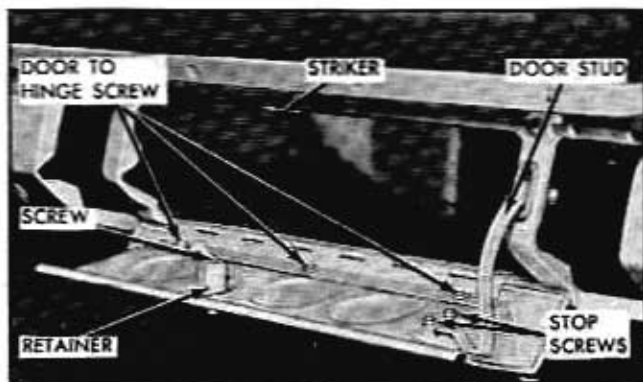

Fig. 1-11 Instrument Panel Compartment Door
5. Inspect condition of each molding clip and install new clips where necessary. Make certain clips are properly sealed to pinchweld and body on all models except convertibles (Fig. 1-11).
2. Remove attaching screws at door hinge and door stop from door inner panel and remove door (Fig. 1-11).
3. The compartment door lock striker may be adjusted by loosening attaching screws and moving striker to desired position (Fig. 1-11).
1. Remove hinge stop attaching screws (Fig. 1-11), disengage stop assembly from instrument panel door and remove stop.
1. Open compartment door, remove screw from retainer and remove knob assembly (Fig. 1-11).